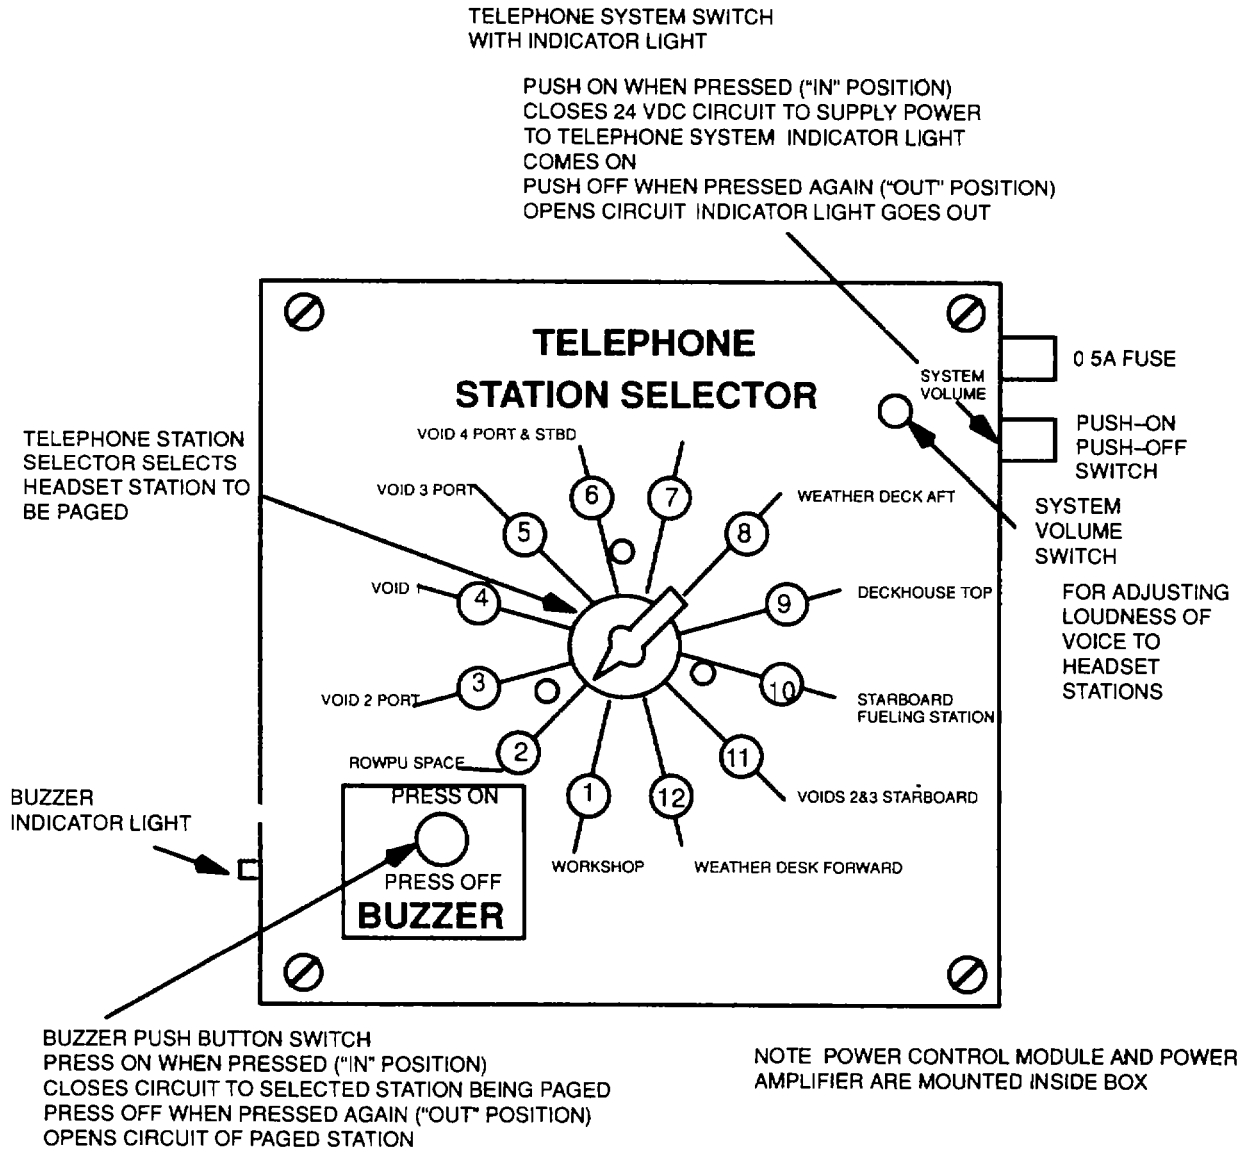

Figure 4-2. Telephone Station Selector Box Controls
4-10 Operating controls and Indicators. Controls and indicators for the telephone system are shown in Figures 4-2 thru 4-6.
- b. Make sure telephone power control module has a 0.5 A fuse in the fuse holder on the side of the telephone headset station selector (Figure 4-2).
- c. Make sure circuit breakers are closed (ON) in accordance with Table 4-2.
- On telephone station selector box (Figure 4-2), press telephone system PUSH-ON/PUSH-OFF button to supply 24 Vdc power to telephone system. Make sure white indicator light comes on.
- a. Make sure BUZZER switch on telephone buzzer station selector panel (Figure 4-2) is off.
- c. Press telephone system PUSH-ON/PUSH-OFF button to OFF (Figure 4-2). Make sure white indicator light goes out.